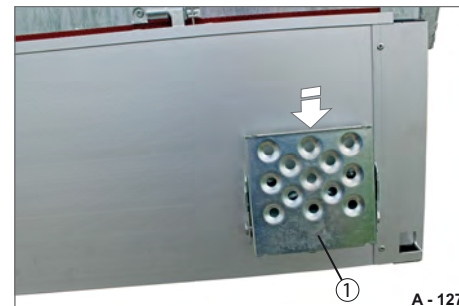

Fig. 183 Folding step, closed
- Fold the step (Fig. 183/1) upwards and then slide it down.